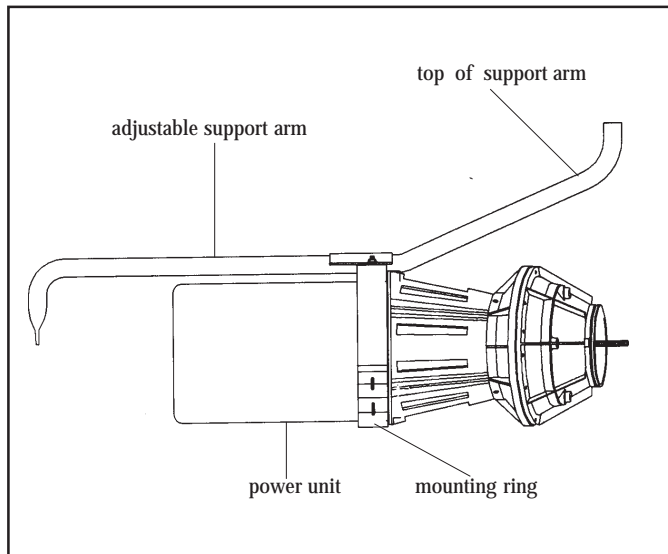

Figure 14
C. Installing adjustable support arm. - see Figure 14
1. Attach the adjustable support arm to the mounting ring using (2) 1/4" flange nuts. Torque nuts to 10-12 ft/lbs.